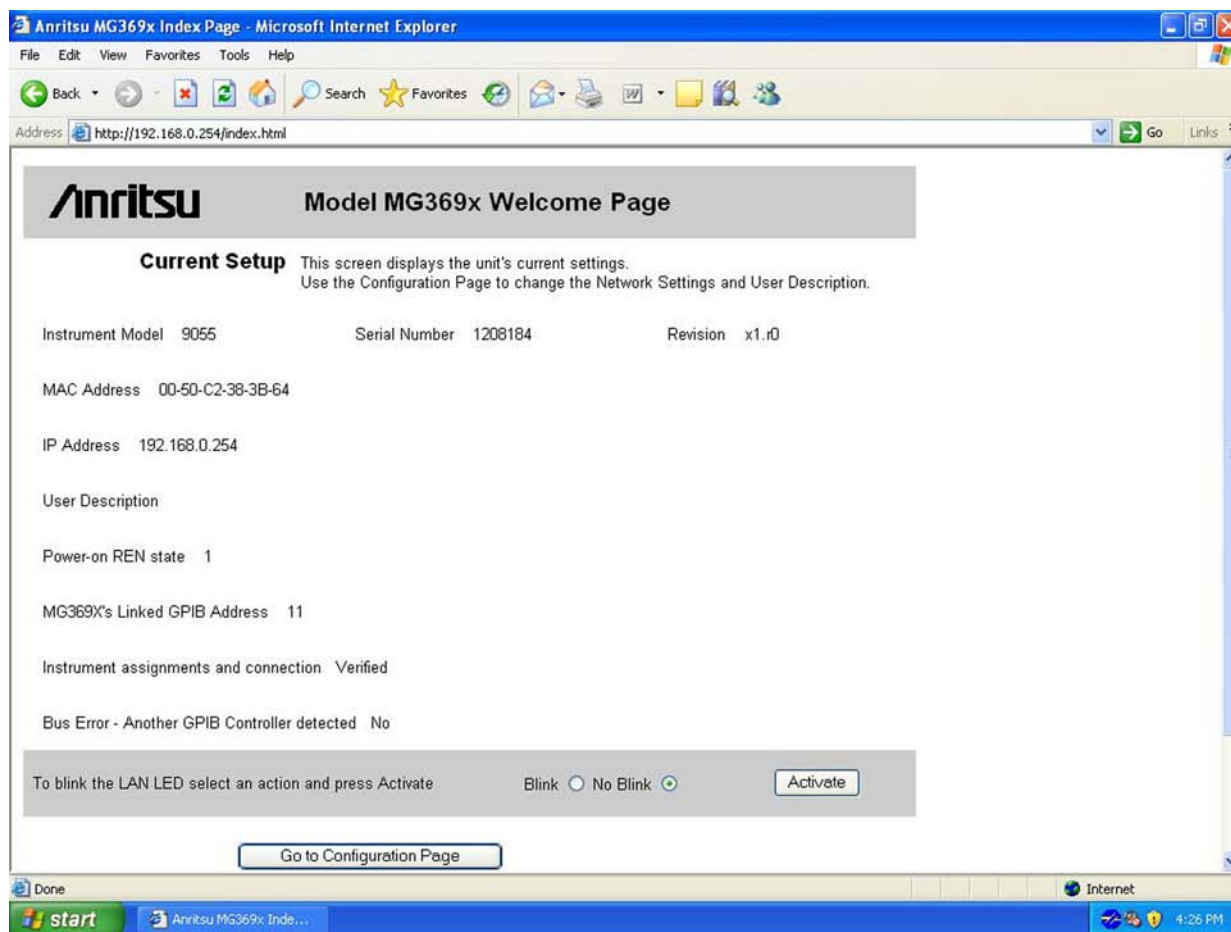

Figure 1-15. Factory IP Address Reset Verification
6. The Welcome Page should appear as shown in Figure 1-15 on page 1-25.